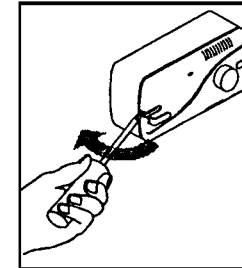

Fig. 2a : Removing screw covers
- 1 Detach the Fascia and the Mounting Frame by removing the screw covers and two screws (Refer to Fig. 2a&b).